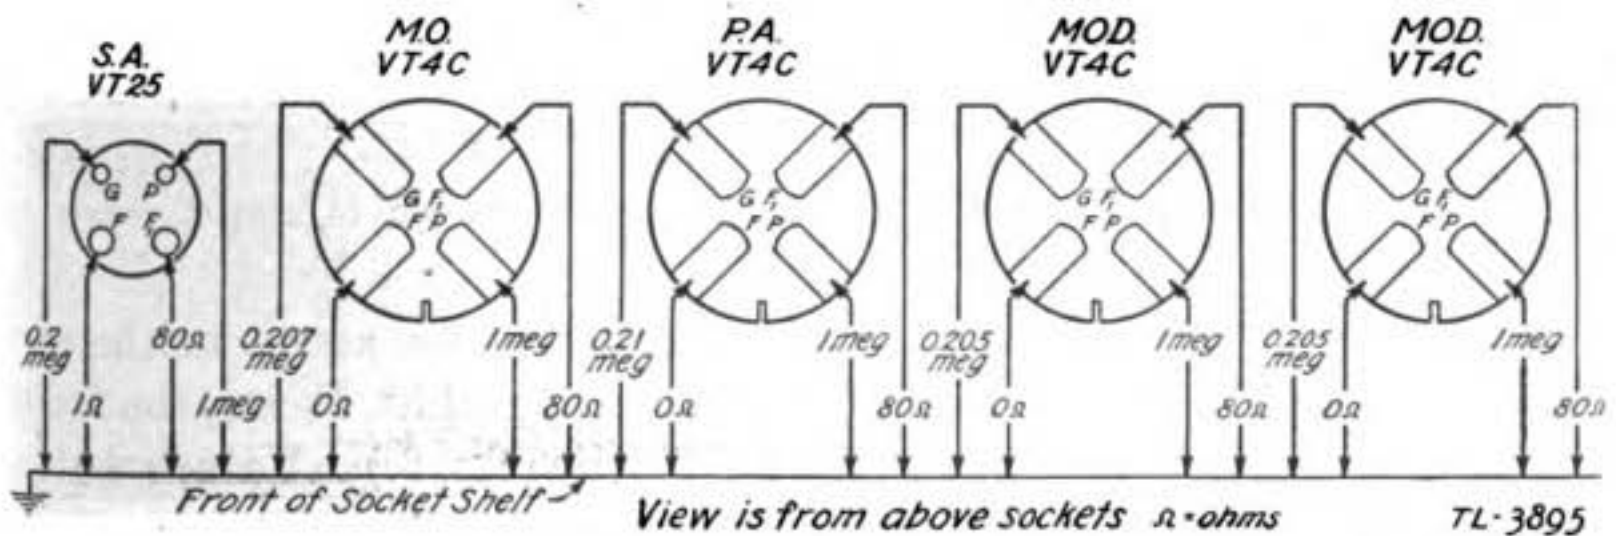

FIGURE 23.—Radio transmitter BC-191-(*), vacuum tube sockets pin to chassis resistance values.
(2) *Measurements from tube sockets.*—Tube socket pin to ground (chassis) resistance values are indicated in figure 23. Resistance values within 15 percent of these should be considered satisfactory.
(3) Turn transmitter OFF ON switch to the OFF position and disconnect the high voltage cord leading from transmitter to power equipment.
(4) Remove tube compartment shield.
(5) Remove power amplifier tube (VT-4-C) from its socket 1110 and cover one filament pin with a piece of paper or tape (see fig. 23 for location of filament pin) and replace the tube. (When transmitter is turned on now the filament of this tube should not light.)
(6) Place TONE C. W. VOICE switch on C. W.
(7) Set OFF ON switch at ON.
(8) The FIL. VOLTS meter will now read more than 10 volts when the C. W. FIL MOD. FIL. switch is set at C. W. FIL. Remove C. W. FILAMENT link (the 12 VOLTS or 14 VOLTS link, depending on power supply, see pars. 14 to 16, incl.) and adjust until a reading of a little over 10 volts is obtained.
(9) Place OFF ON switch at OFF and reconnect the high voltage cord. Remove piece of wire shorting the two terminals of the 0- to 1-ampere radio frequency ammeter.
(10) Set OFF ON switch to ON and press TEST KEY. If transmitter tuning unit is not neutralized properly, an appreciable deflection of the 0- to 1-ampere radio frequency ammeter will occur.
(11) Release TEST KEY and remove CALIBRATION CHART by unscrewing the four knurled screws at the corners.
(12) With a screw driver, unlock neutralizing capacitor lock by turning screw one-quarter turn counterclockwise.
(13) Press TEST KEY and rotate neutralizing capacitor control until the current indicated on the 0- to 1-ampere radio frequency ammeter is reduced to zero.
(14) Adjustment of this control reacts on the tuning of the power amplifier; therefore, slight readjustments must be made on the P. A. TUNING and antenna controls. If the 0- to 1-ampere meter shows a current indication after this adjustment, repeat operation (13). Repeat operation (14) once more and then operation (13) if necessary. This completes the neutralization. Release TEST KEY and set OFF ON switch at OFF.
(15) Lock neutralizing capacitor control in its final position by rotating screw lock one-quarter turn clockwise, using the screw driver. Replace CALIBRATION CHART.